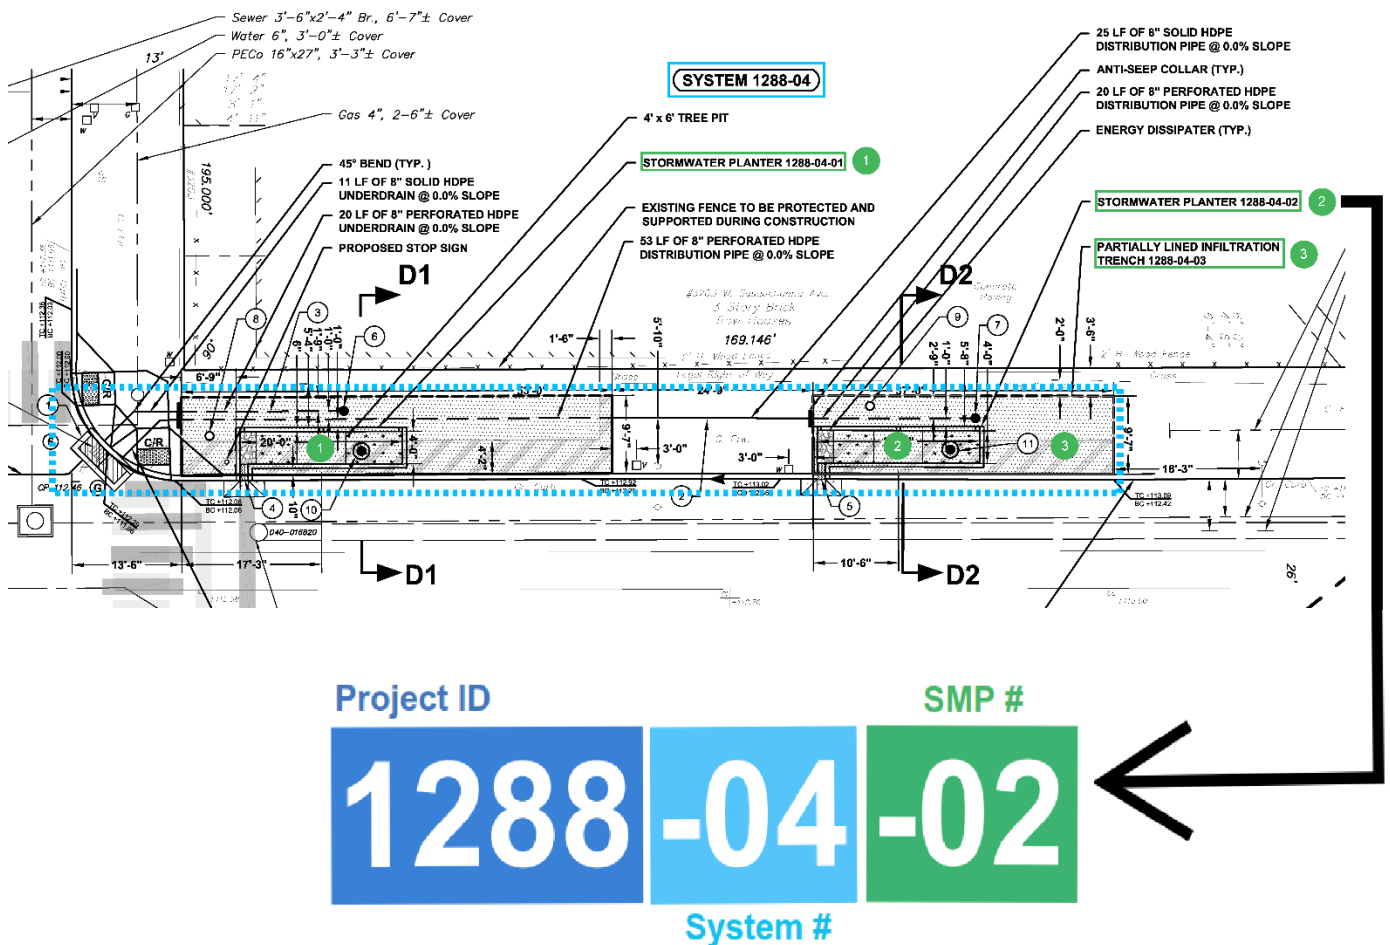

Figure 5 – Example SMP and system labels
4. Labels should be bold and prominently displayed. See example in *Figure 5* below.